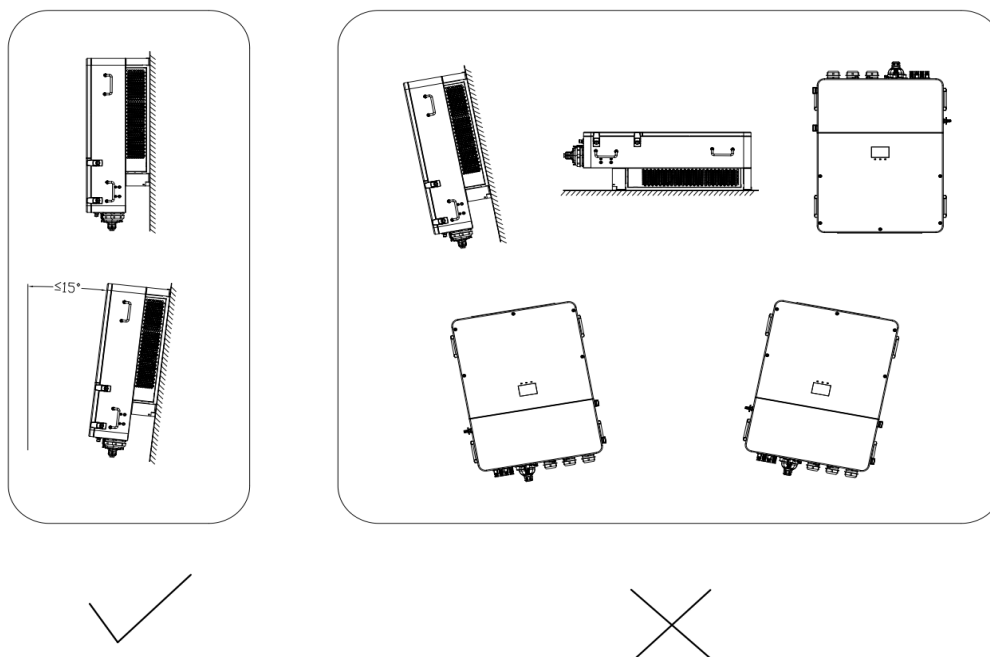

Figure 4-6 Location of inverter installation
- The installation surface should be perpendicular to the horizontal line, as shown in Figure 4-6. Please install the inverter vertically or tilt back $\leq 15^\circ$ to facilitate the heat dissipation of the machine. Do not install the inverter tilt forward, horizontally, upside down, tilt backward too much or sideways.